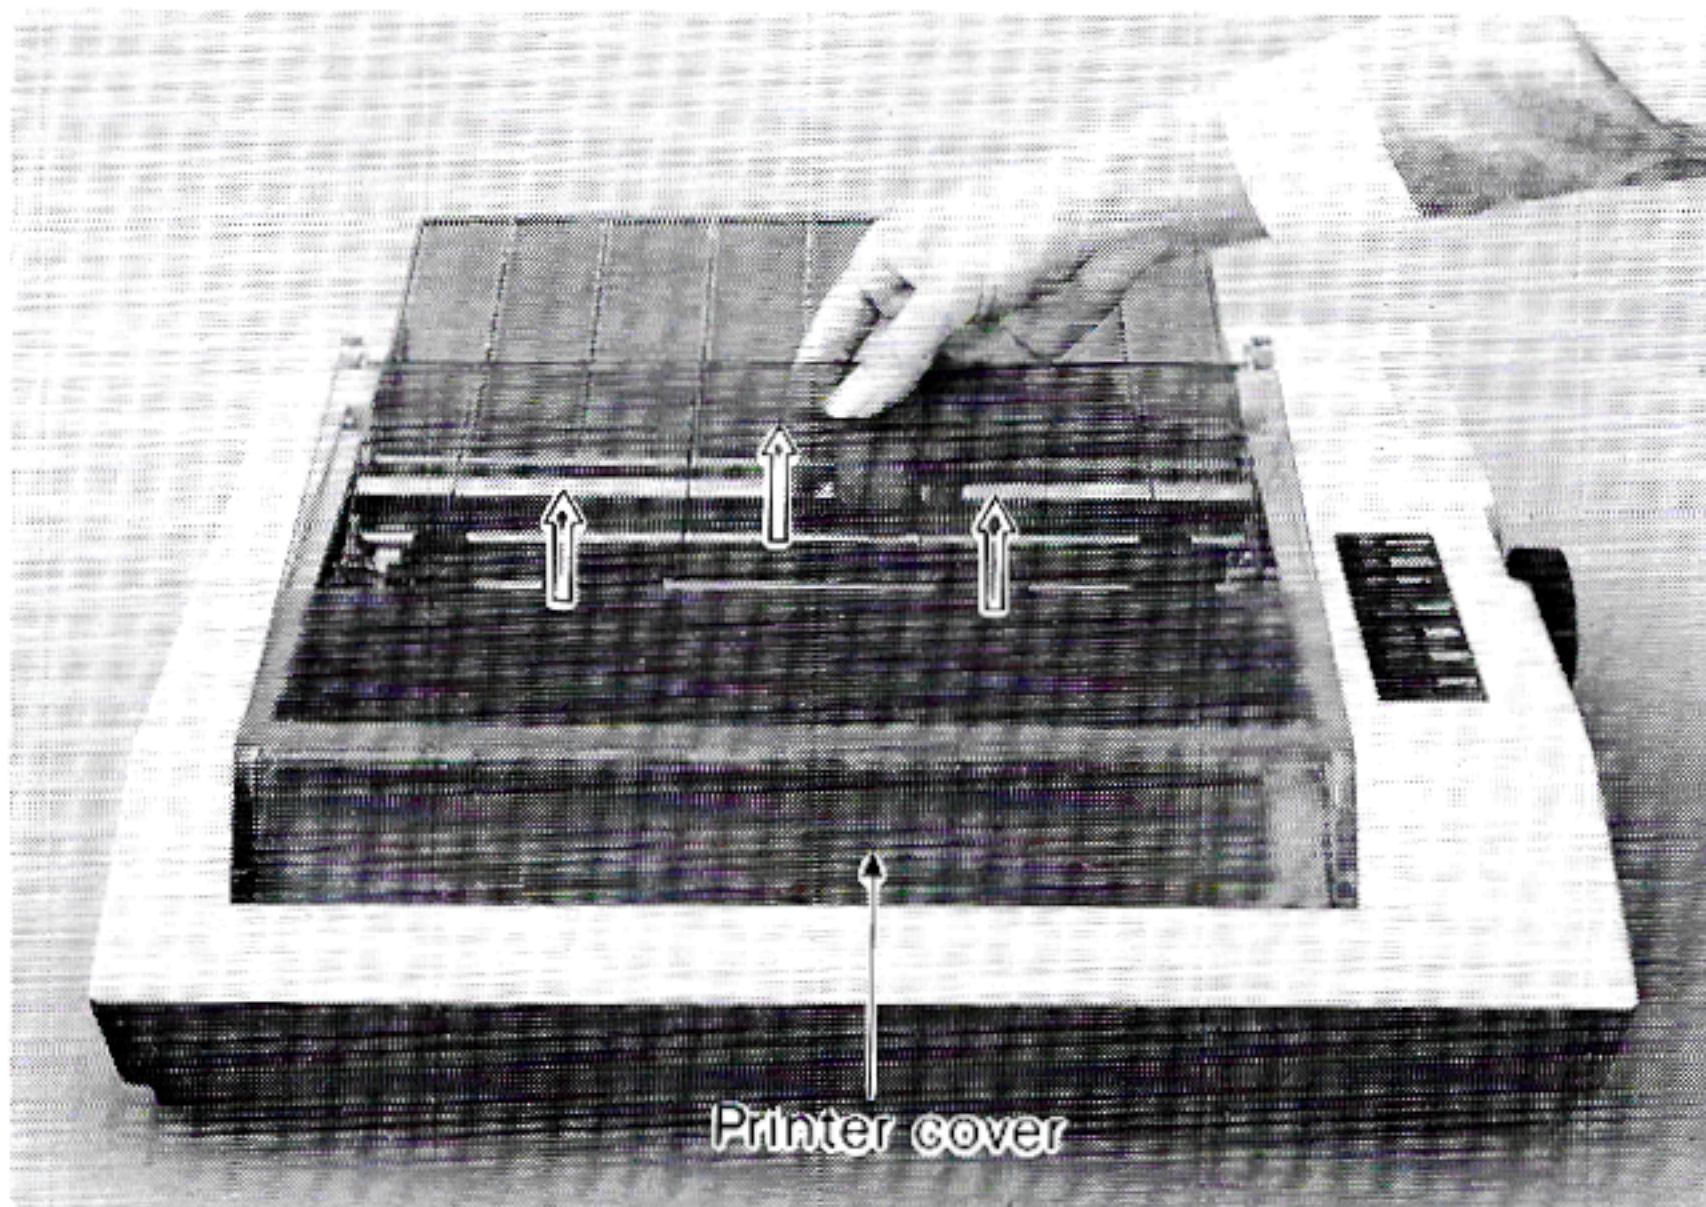

Figure 12
a) Grasp the back of the printer cover and remove it by lifting upwards (figure 12).